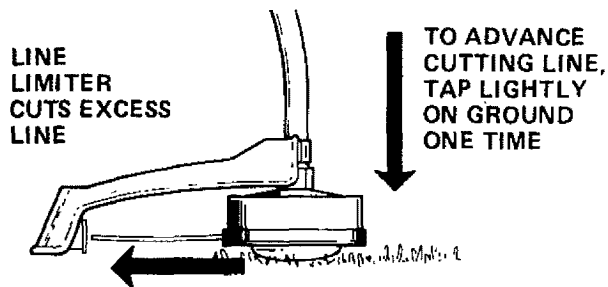

Figure 12
- c. Tap the cutting head lightly on the ground one time. See Figure 12. Approximately 2 inches of line will be advanced after each tap.